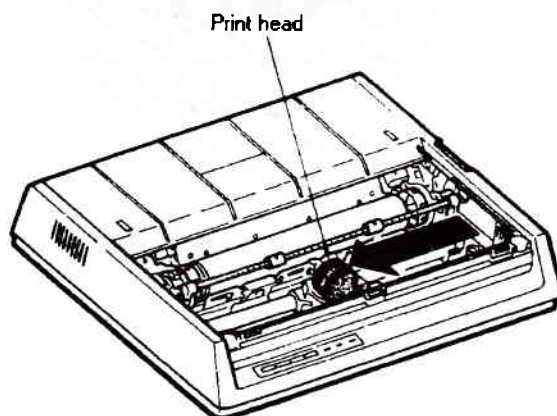

Figure 31, Printhead position
3. Gently slide the printhead to the middle of the printer. (see figure 31).
4. Grasp the old ribbon cartridge at both sides off the printhead and lift it up. (see figure 31).